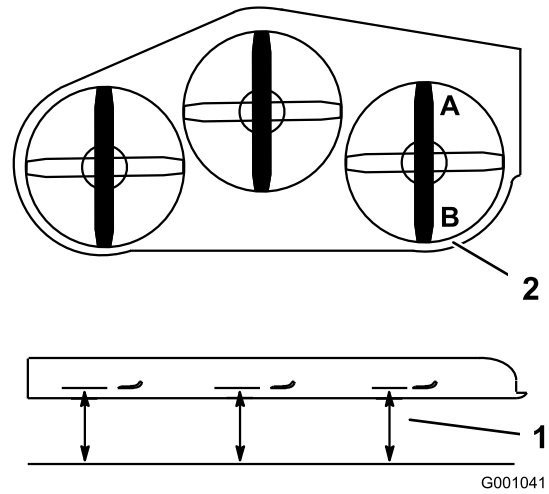

Figure 88
2. Position one blade front-to-rear. Measure at **A** and **B** locations from a level surface to the cutting edge of the blade tips (Figure 88).